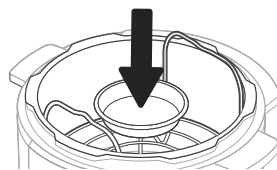

Figure 9.4
3. Pour 354 mL of water into the inner pot and place the steam rack inside, then place the springform pan onto the steam rack. **[Figure 9.4]**